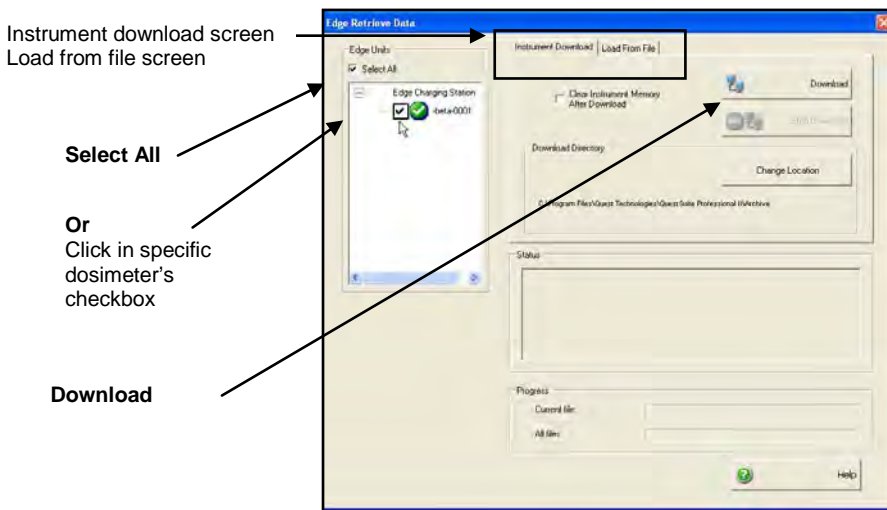

Figure 5-2: Retrieve Data screen in QSP-II
3. Click on the **Load from File** tab (see Figure 5-2) and then select **Extract Previously Downloaded File**  button.